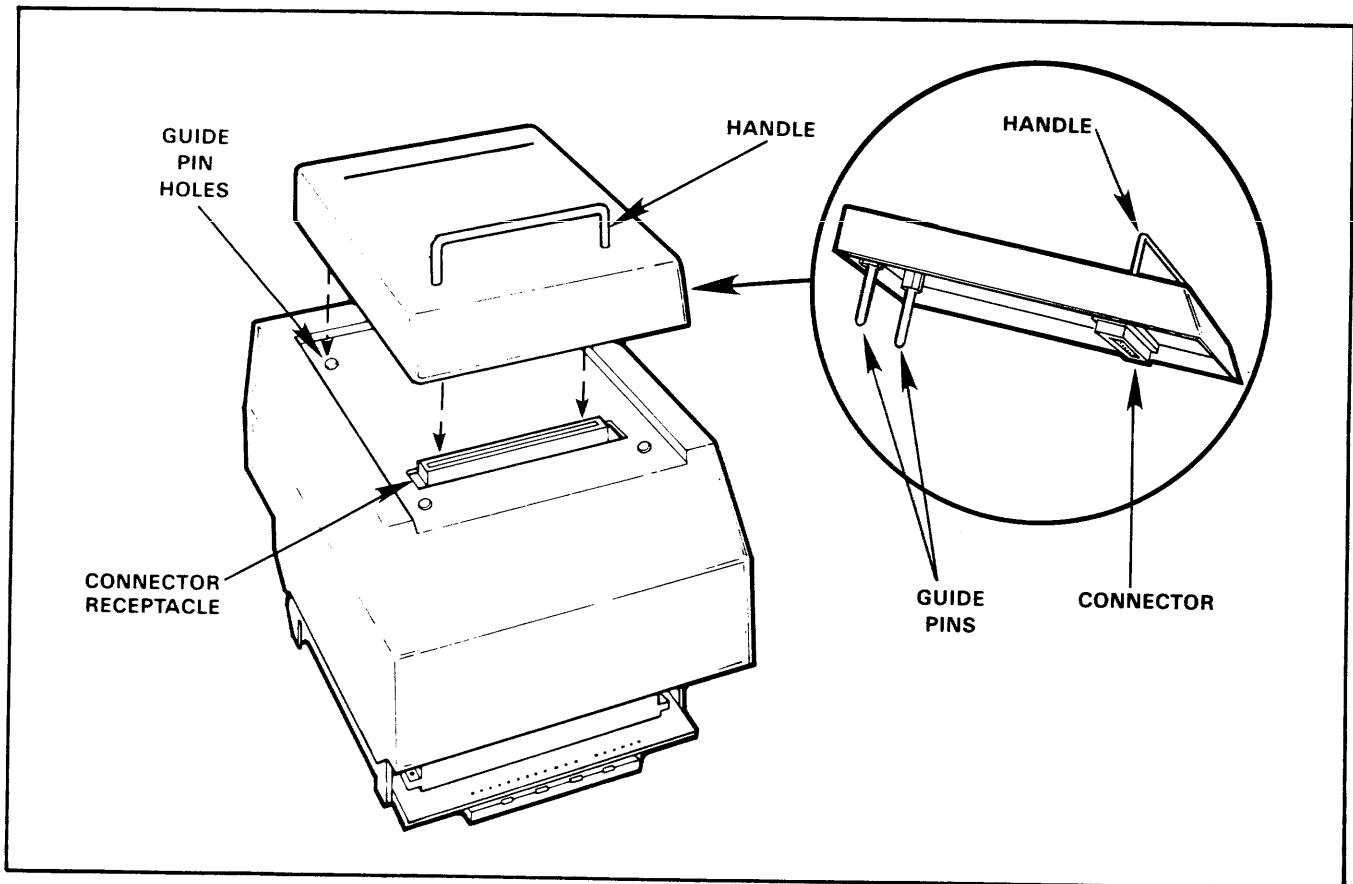

Figure 2-1. Adapter Installation
1. Align the guide pins on the underside of the adapter with the guide pin holes on the LogicPak™ (see figure 2-1).
3. Firmly press down on the front edge of the adapter to lock the connector pins into the connector receptacle (see figure 2-1).